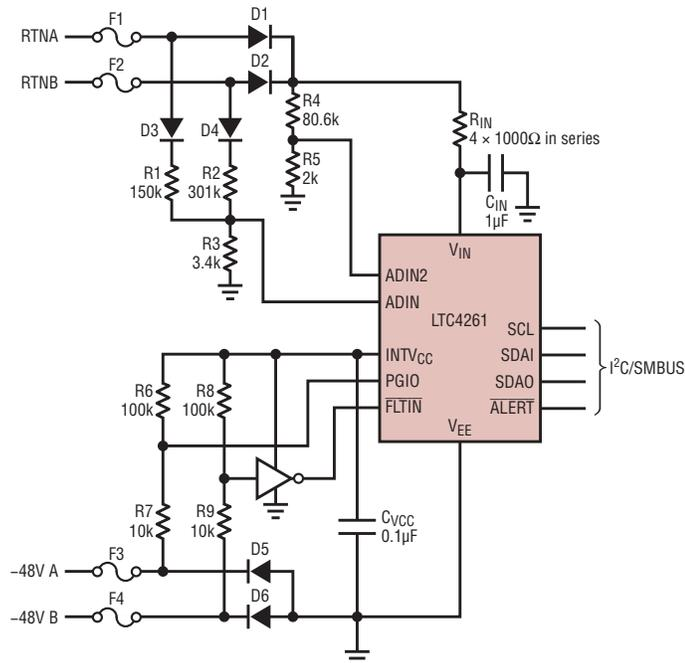

Figure 9. LTC4261 makes it possible to determine which of the four fuses is open in an AdvancedTCA system.
**Table 2. The voltages at ADIN and ADIN2 (referred to  $V_{EE}$ ) indicate which RTN fuse is open in the 4-fuse monitor in Figure 9**
The integrated ADC, I2C monitoring, and general-purpose pins of the LTC4261 make it possible to monitor the individual fuses, as shown in Figure 9. Fuses on the RTN side are sensed using resistors R1, R2 and R3 with the output measured by the ADC at the ADIN pin. At the same time, the input voltage after the ORing diodes is sensed using R4 and R5 and measured at the ADIN2 pin. Diodes D3 and D4 are used to compensate the ORing
Fuse monitoring on the -48V side is more straightforward using the INTVCC pin along with two logic input pins, PGIO (when configured as input) and  $\overline{FLTIN}$  as shown in Figure 9. Fuse F3 is sensed with R6 and R7 at PGIO, and fuse F4 is sensed with R8 and R9 at  $\overline{FLTIN}$  with inverted input. If F3